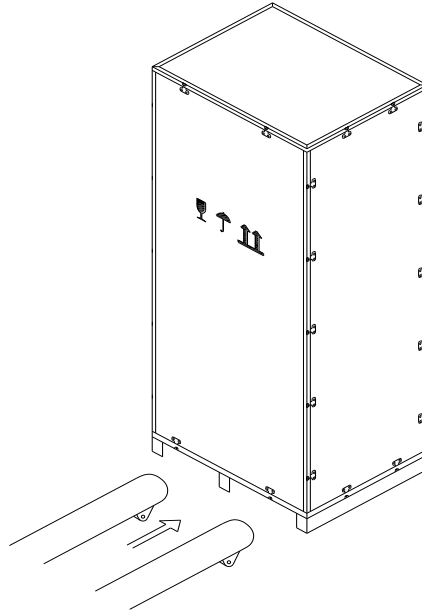

Figure0-3 Transport to the designated site
- 2) Transport the equipment to the designated site by forklift, as shown in Figure0-3.